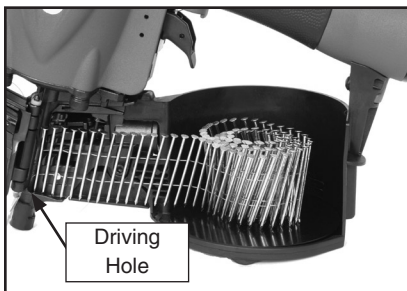

Figure 5. Loading nails in the magazine.
4. Place the nail coil into the magazine and uncoil enough nails to reach the driving hole as shown in **Figure 5**.